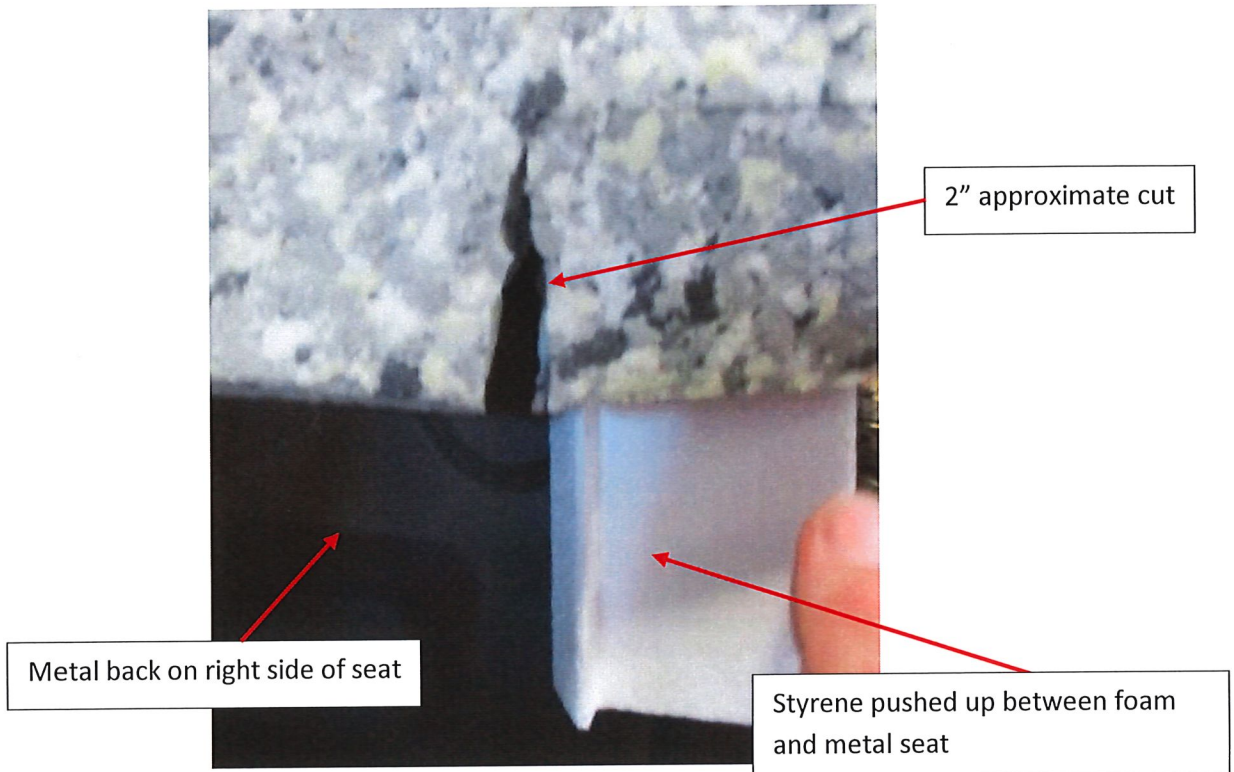

Figure 10: Cut an approximat 2" slit on the back of foam using cutting shears
15. Cut approximately a 2" slit on left and right as shown in **Figure 10** (To be done on both sides of seat)